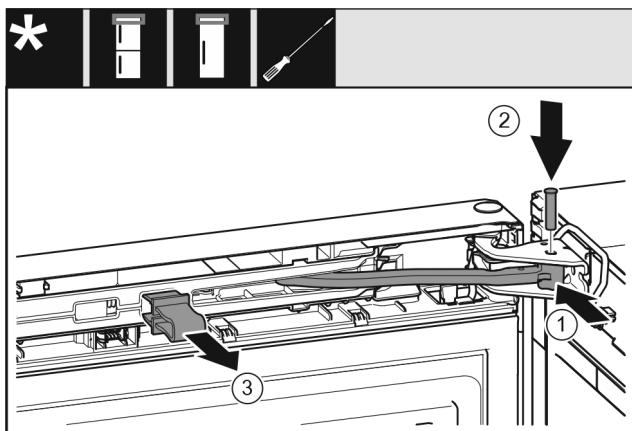

Fig. 23
- ▶ Turn the hinge in the bearing bracket. *Fig. 23 (1)*
- ▶ Insert the bolt in the bearing bracket and hinge. Make sure that the latching lug is sitting correctly in the groove. *Fig. 23 (2)*
- ▶ Remove the locking device. *Fig. 23 (3)*